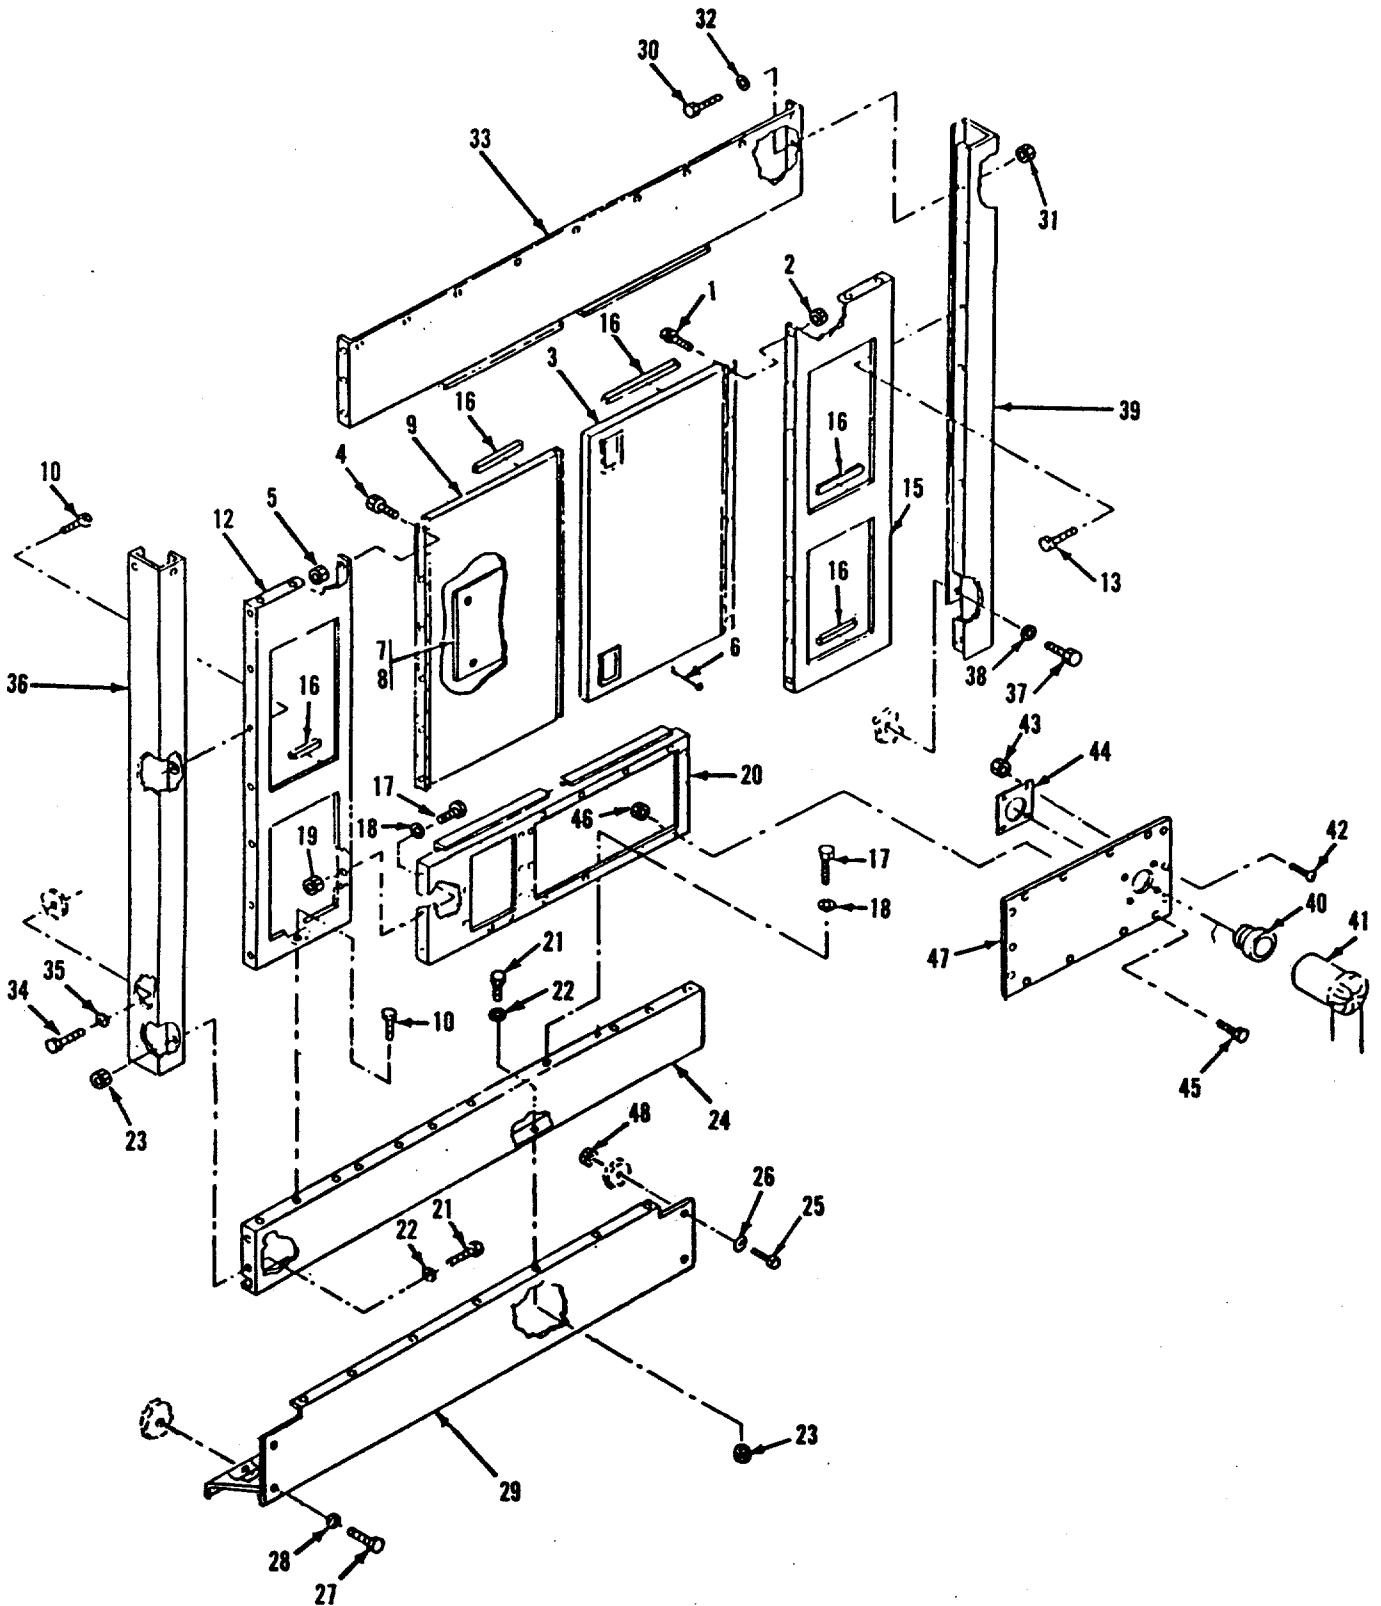

Figure 15-20. Housing Kit, Rear
- (14) Attach corner post (51) to support frame with eight screws (49) and nuts (50); and install three screws (37) and nuts (38) attaching corner post (51) to support frame at the bottom.
e. Rear. Refer to figure 15-20 and install as follows:
- (1) Attach corner post (36) to support frame with screws (34) and washers (35).
- (2) Similarly, attach corner post (39) to frame with screws (37) and washers (38).
- (3) Install upper panel (33) to both corner posts (36 and 39) with six screws (30), washers (32), and nuts (31).
- (4) Attach lower panel (24) to panel (20) with six screws (17) and washers (18). Attach bottom of panel (24) to top of panel (29) with seven screws (21), washers (22) and nuts (23). These three panels will be installed later on.
- (5) Install right-hand panel (12) to corner post (36) and upper panel (33) with ten screws (10).
- (6) Similarly, install left-hand panel (15) to corner post (39) and upper panel (33) with ten screws (13).
- (7) Install panels (20, (24), and (29) pre-assembled in step (4) by attaching to the base assembly with four screws (25), nuts (48), washers (26); and four screws (27), and washers (28). Bolt right-hand panel (12) to panel (20) with three screws (17), washers (18), and nuts (19). Bolt panel (24) to right-hand panel (15) with three screws (10). Bolt left-hand panel (15) bottom to panel (24) with three screws (10). Bolt ends of panel (24) to corner posts (36 and 39) with four screws (21), washers (22) and nuts (23). Install twelve screws around fuel tank filler neck area. Bolt panel (20) to left-hand panel (15) with three screws (17), washers (18), and nuts (19).
- (8) Install access door (9) to right-hand panel (12) with six screws (4) and nuts (5). Attach door holder rod (6); then close loop ends.
- (9) Install operating instructions plate (8) to access door (9) with six rivets (7).
- (10) Install access door (3) to left-hand panel (15) with six screws (9) and nuts (2). Attach door holder rod (6); then close loop ends .
**LEGEND FOR FIGURE 15-20**